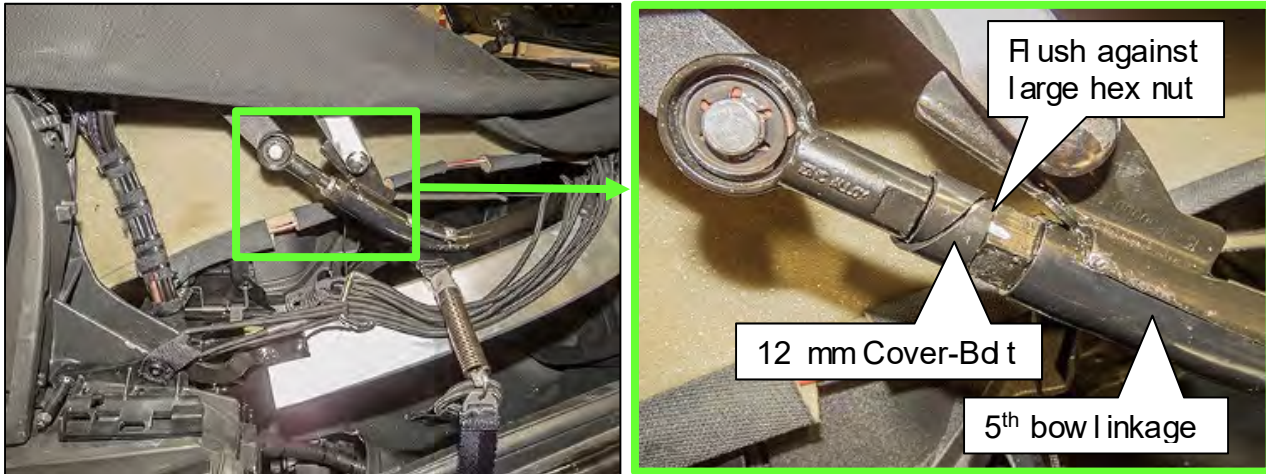

Figure 34
41. Install the 12 mm Cover-Bd t onto the 5th bow linkage (see Figure 34).